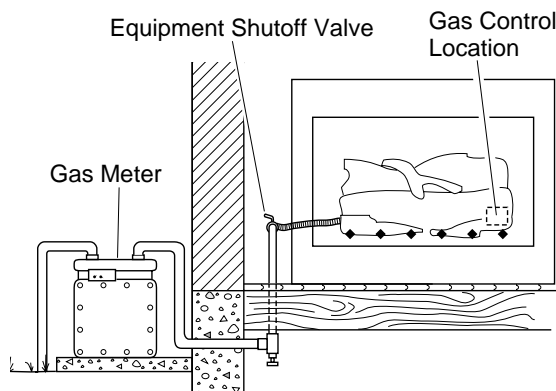

Figure 15 - Checking Gas Joints
3. Check all joints from gas meter to equipment shutoff valve (see Figure 15). Apply mixture of liquid soap and water to gas joints. Bubbles forming show a leak.
4. Check all joints from equipment shutoff valve to gas control (see Figure 15). Apply mixture of liquid soap and water to gas joints. Bubbles forming show a leak.